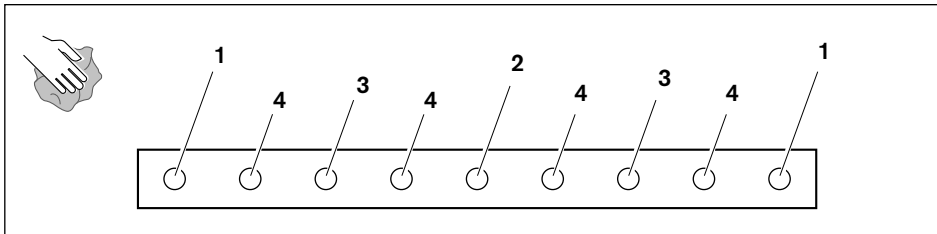

Fig. 5: Mounting the IMS guide rails
- ▶ Mount the IMS guide rails as shown in Fig. 5.